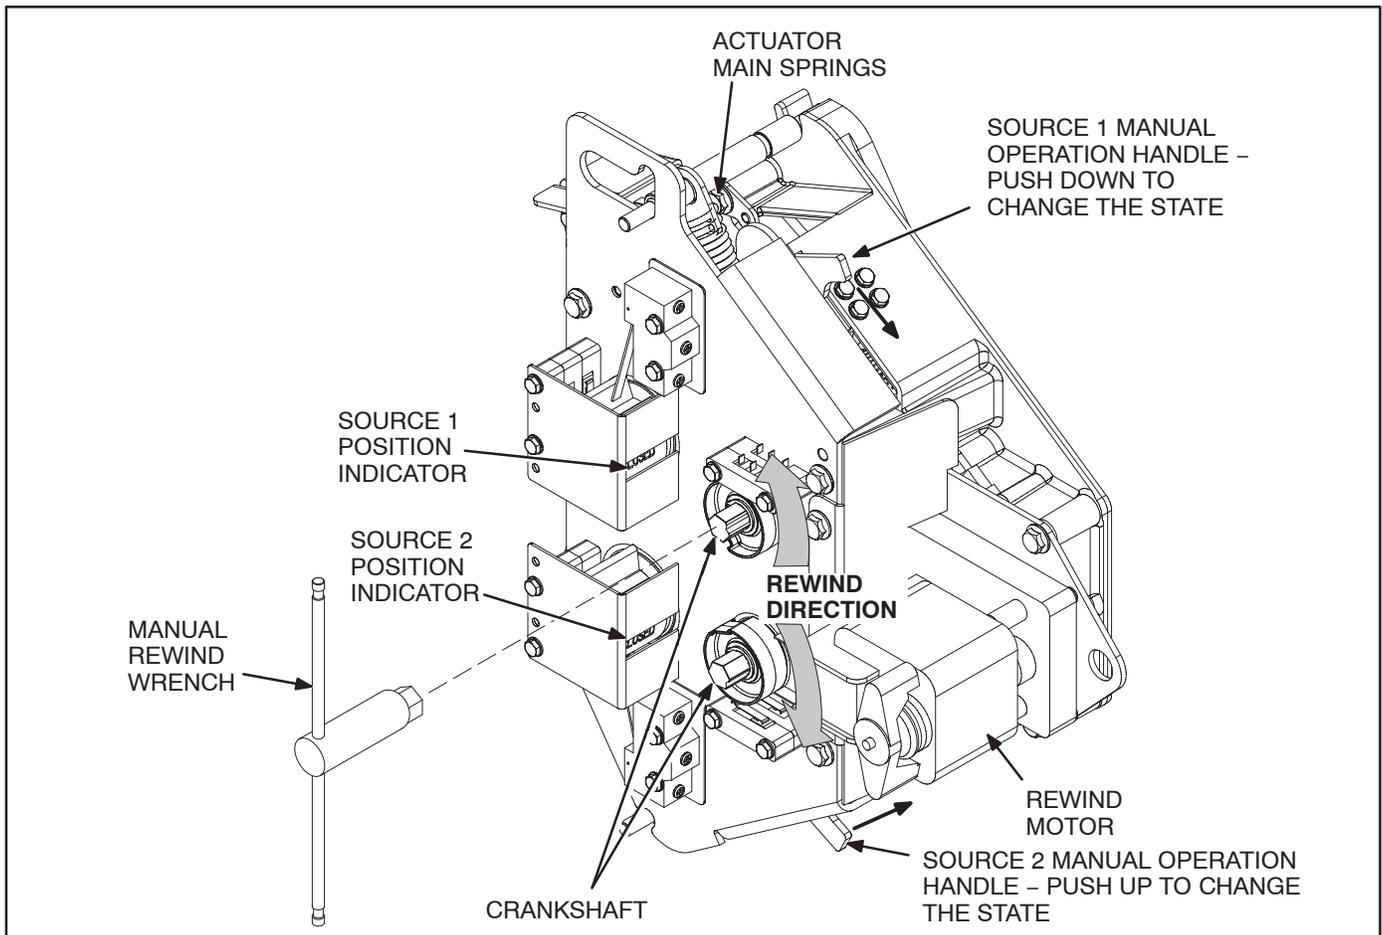

FIGURE 3-30. RECHARGING THE SPRINGS MANUALLY
The manual operation handles are located on the transfer switch actuator (see Figure 3-30). Some
Before manually transferring the transfer switch, the switch position needs to be verified. If power is available, look at the Source 1/Source 2 Connected lights on the front panel. If no power is available and the lights are not lit, open the transfer switch door and look at the switch position indicators on the actuator (see Figure 3-30). If the transfer switch is connected to Source 1, the Source 1 indicator will read CLOSED and the Source 2 indicator will read OPEN.
2. Engage the manual rewind wrench with the end of the Source 1 or Source 2 crankshaft (the top crankshaft is for Source 1; the bottom crankshaft is for Source 2). It works well to start with the handles straight up and down (see Figure 3-30).